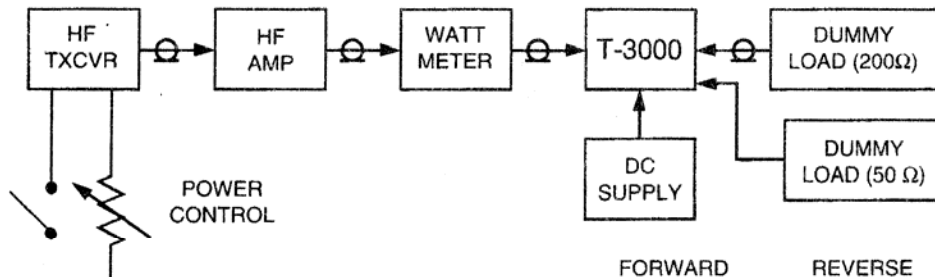

Figure 8.1
1. Connect the T-3000 as depicted in Figure 8.1.